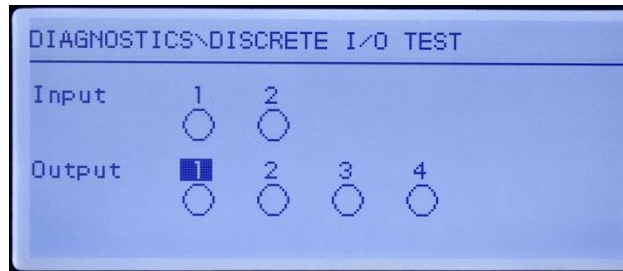

Figure 5-5: Discrete I/O Test Screen
2. Press **ENTER** to continue to the diagnostic screen. When viewing the test screen, the input status will be shown at the top of the display and the output status will be shown at the bottom of the display (Figure 5-5). Focus is shown on Output #1 first.